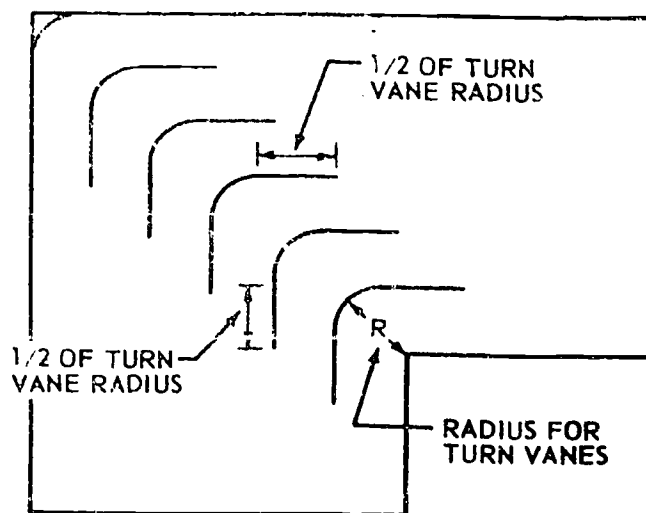

Figure 3-6. Turn vanes in square elbow.
**Turn Vanes.** Turn vanes (see fig. 3-6) are used in the elbows of square or rectangular ducts to reduce turbulence and pressure loss and to provide a more uniform distribution of air. Turn vanes are especially valuable in the elbows connected to supply registers and grilles.
In figure 3-6 you can see that the turn vanes form several small elbows that function very much like splitters. However, you determine the number of turn vanes and their distances apart in a different way from those for splitters. For best airflow, the turn vanes should be spaced so that they have an aspect ratio of 5 (5 to 1). The aspect ratio of an elbow is equal to the height of the elbow divided by its width ( $\frac{H}{W}$ ).
(Remember that the width of an elbow is in the same plane as its radius.) For example, if the elbow in figure 3-6 is 15 inches high, we can substitute 15 for H, solve for W (width or radius of the turn vanes), and find that the turn vane width should be 3 inches if maximum airflow is to be obtained. Therefore, the turn vanes should be installed 3 inches apart to divide the elbow into several effective smaller elbows, each with the desired aspect ratio of 5:
To determine how many turn vanes you need, measure the distance from the throat corner to the heel corner of the elbow and divide it by the 3-inch radius. For example, if in figure 3-6 the distance from throat to heel is 24 inches and each turn vane is to be 3 inches apart, you should divide 24 by 3 to find that you need 8 turn vanes.
Notice in figure 3-6 that each turn vane is straight on both sides of the 90° radius bend. The length of each straight edge is equal to 1/2 the distance (radius) between the turn vanes. Since in this example the turn vanes must be 3 inches apart, each straight edge should extend 1 1/2 inches past the 90° radius bend.